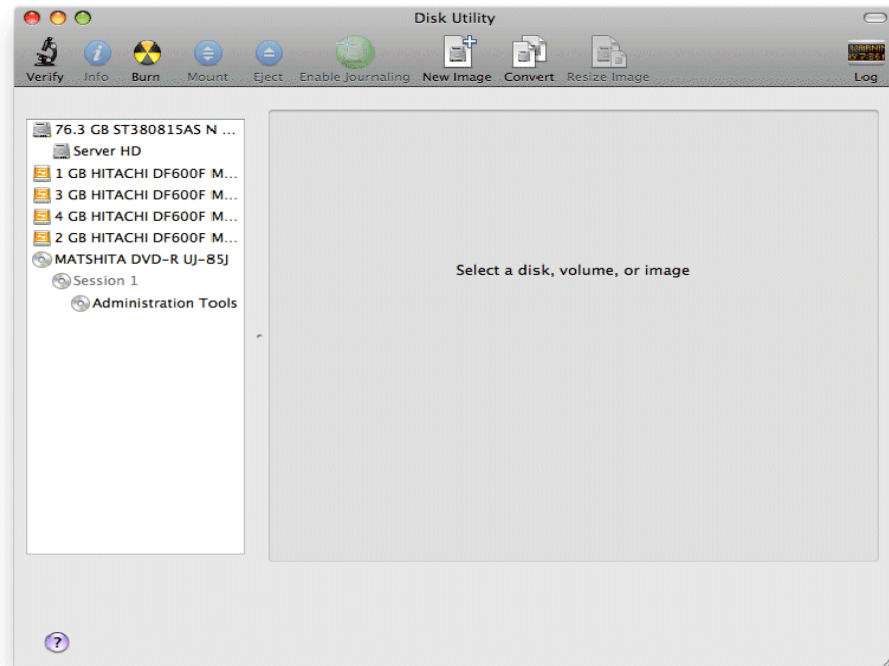

Figure 8-4: Opening the Disk Utility
3. Open **Disk Utility** and confirm that the device **HITACHI DF600F** is recognized (Figure 8-4).